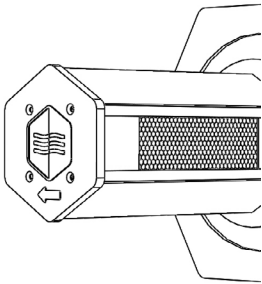

Fig. 2 Orient device in proper airflow direction as indicated
- Be sure to orient the device for proper airflow through the ionizing cell. Proper airflow direction is indicated by an arrow on the tip of the ionizing cell. (See Fig. 2)
Note: Be sure airflow will pass in the proper direction as indicated by the arrow on the top of the ionizing cell. (See Fig. 2)